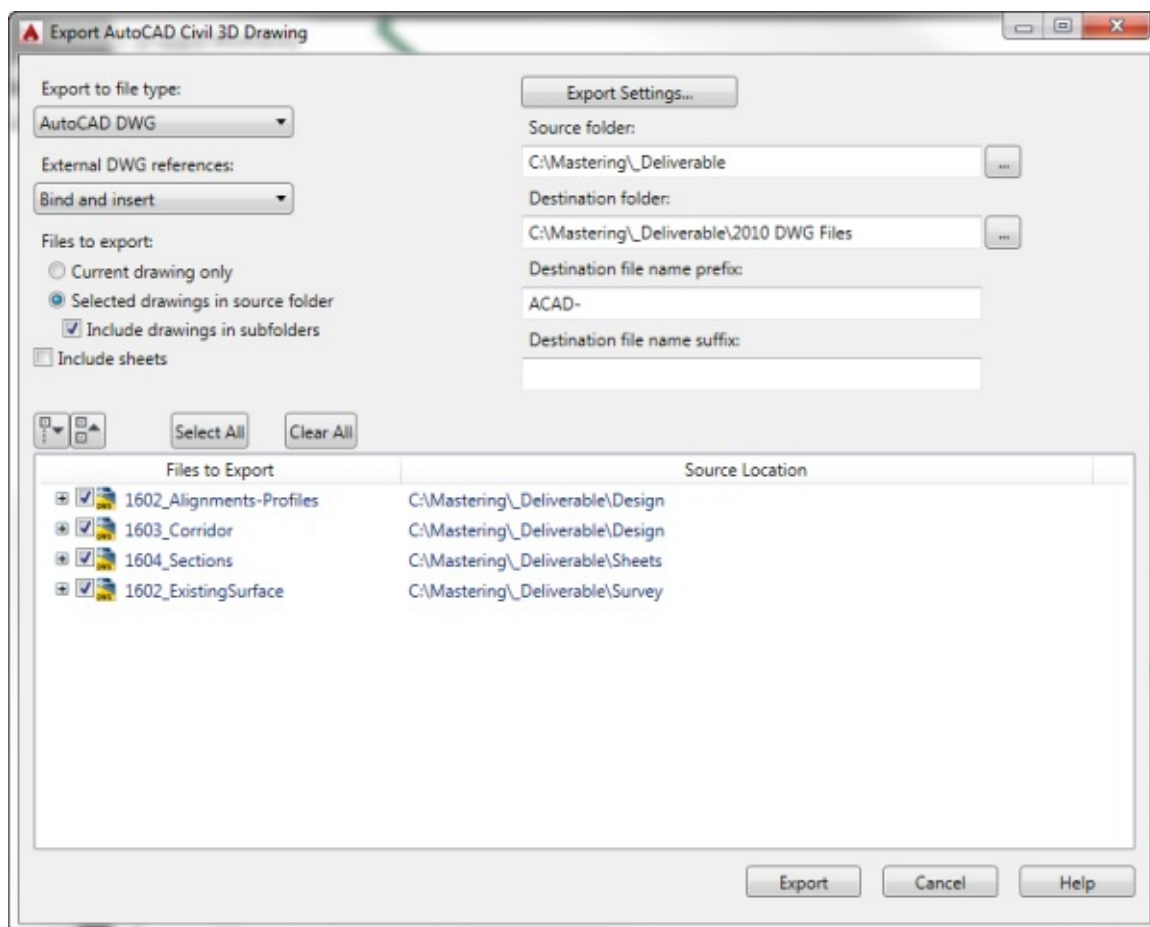

Figure 16.25 Export AutoCAD Civil 3D Drawing dialog, a new feature in Civil 3D 2015
8. The Export AutoCAD Civil 3D Drawing dialog should look like Figure 16.25.